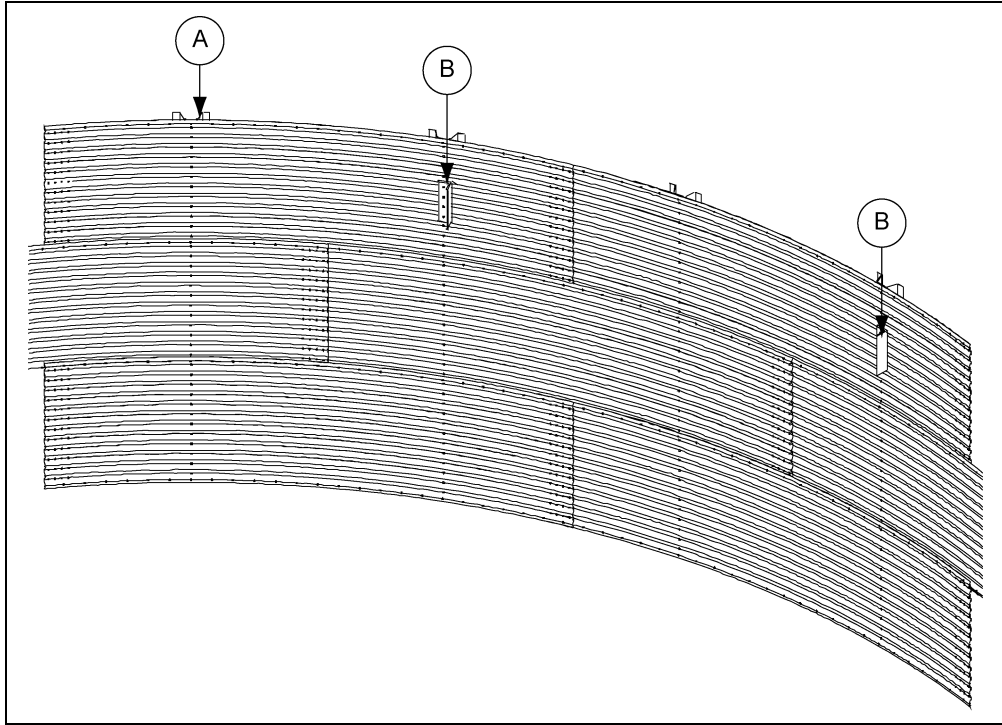

Figure 15A
- a. Lifting brackets should be attached to the stiffeners. At least one bracket per sidewall sheet should be used. These are usually attached in the third ring from the bottom of the tank. Brackets should attach to a minimum of four (4) bolts through the stiffener. Attach cables to the lift brackets and to the crane hook, which has been lowered through the center ring opening. Cables should be sized to handle the entire weight of the bin. Make all lift cables of equal length before the bin is lifted. Refer to Figure 15A and Figure 15B on Page 79.